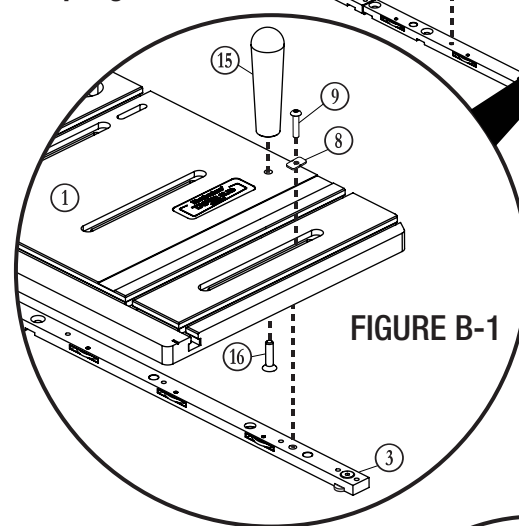

FIGURE B-1
1. Arrange the two ③ Miter Bars in the same direction so that the ⑧ leaf springs are facing LEFT. Arrange the Sled Base so that the carry handle is opposite the leaf springs. **FIGURE B.**
2. Loosely install six ⑨ Button Head Socket Cap Screws and ⑧ Square Washers through the counter-bored slots in the ① Sled Base and into the two ③ Miter Bars. **FIGURE B-1.** If using the T-Track washers, take note of the location. The washers should be outside of the Sled Base. You can leave the screws loose until calibration.